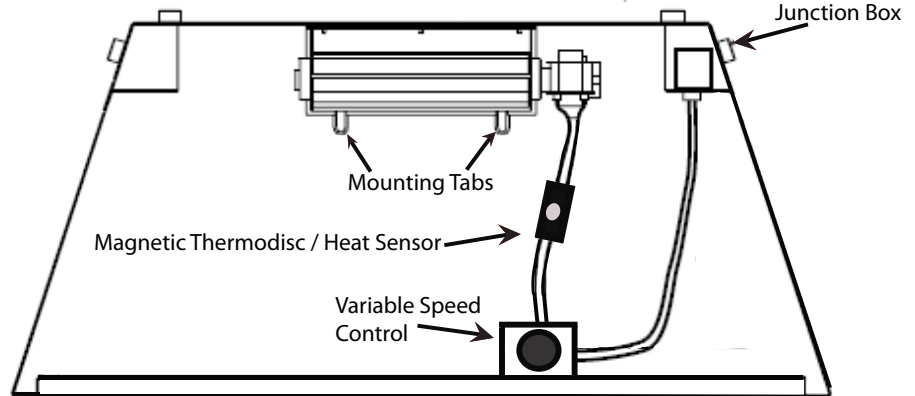

Figure: 3
Step 3: Under Firebox, wipe off area where the Fan will be mounted, this will allow velcro to take hold. (Figures: 3&5 or 4 Multi-Sided Fireplace)
Visualize a pathway for the blower to reach the back. (Figure: 3)
Slide blower assembly through bottom vent space; as the blower reaches the back, position mounting tabs in mounting bracket notches, so the blower's rectangle air exit port is facing up. (Figures: 3&5 or 4)
Step 4: Place magnetic thermodisc to warmest spot on the underside of firebox, typically this is towards the front and right of center (You may have to change the position of thermodisc until you find a hot spot). (Figures: 3&6)
Step 5: The Variable Speed Control may simply be set on the floor of the lower vent space near the front. Remove the clear back of the Velcro Strip attached to speed control for mounting. Turn the dial left and it will click off, turn right to reduce speed. (Figures: 3&5)